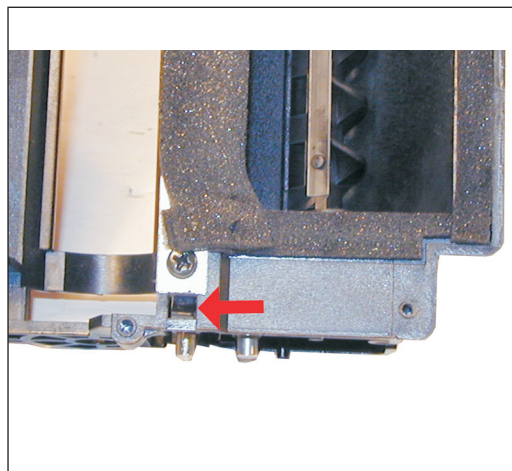

Figure 17
12) Press in on the top tab of the Developer roller plate (Right Side) to release it. See Figure 17